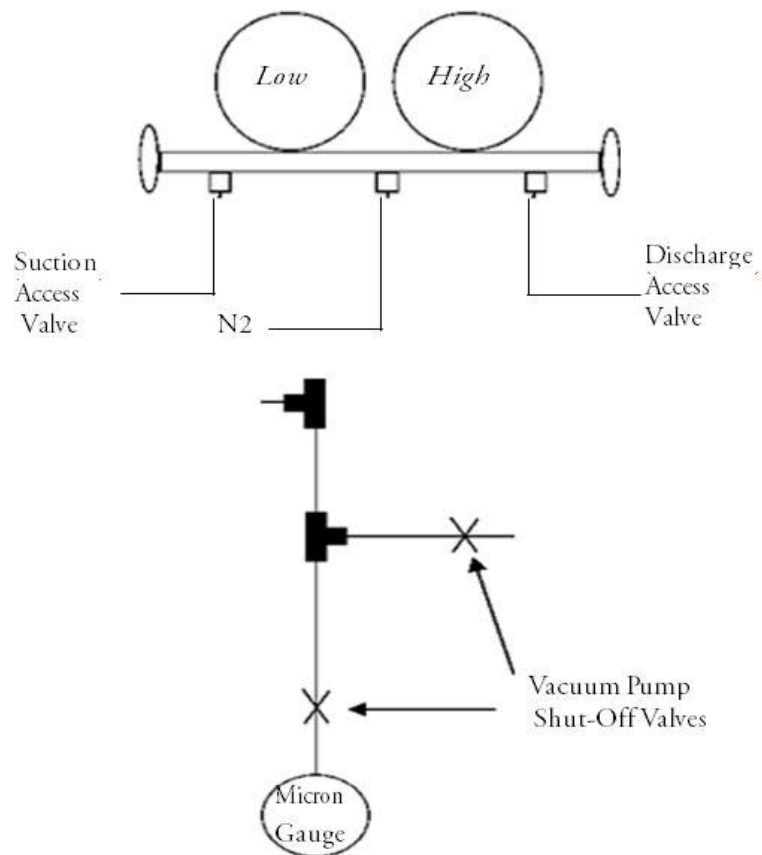

Figure 11. Evacuation and Recharge Process Connections
2. Connect the gauge manifold, micron gauge, dry nitrogen (N₂), shut-off valves, and service valves as shown in Figure 11(next page).